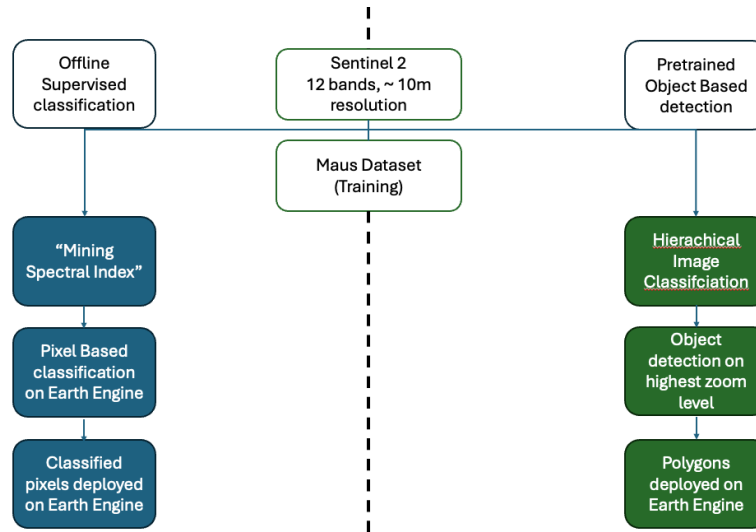

Figure 1:
**How** The MAUS dataset [MGdS+22] contains bounding polygons of mines all around the world. We use this data as ground truth to train, validate and test supervised learning approaches to trace bounding boxes of mining assets using high resolution satellite imagery. We will simultaneously develop the two approaches on Figure 1 and further elaborated below.